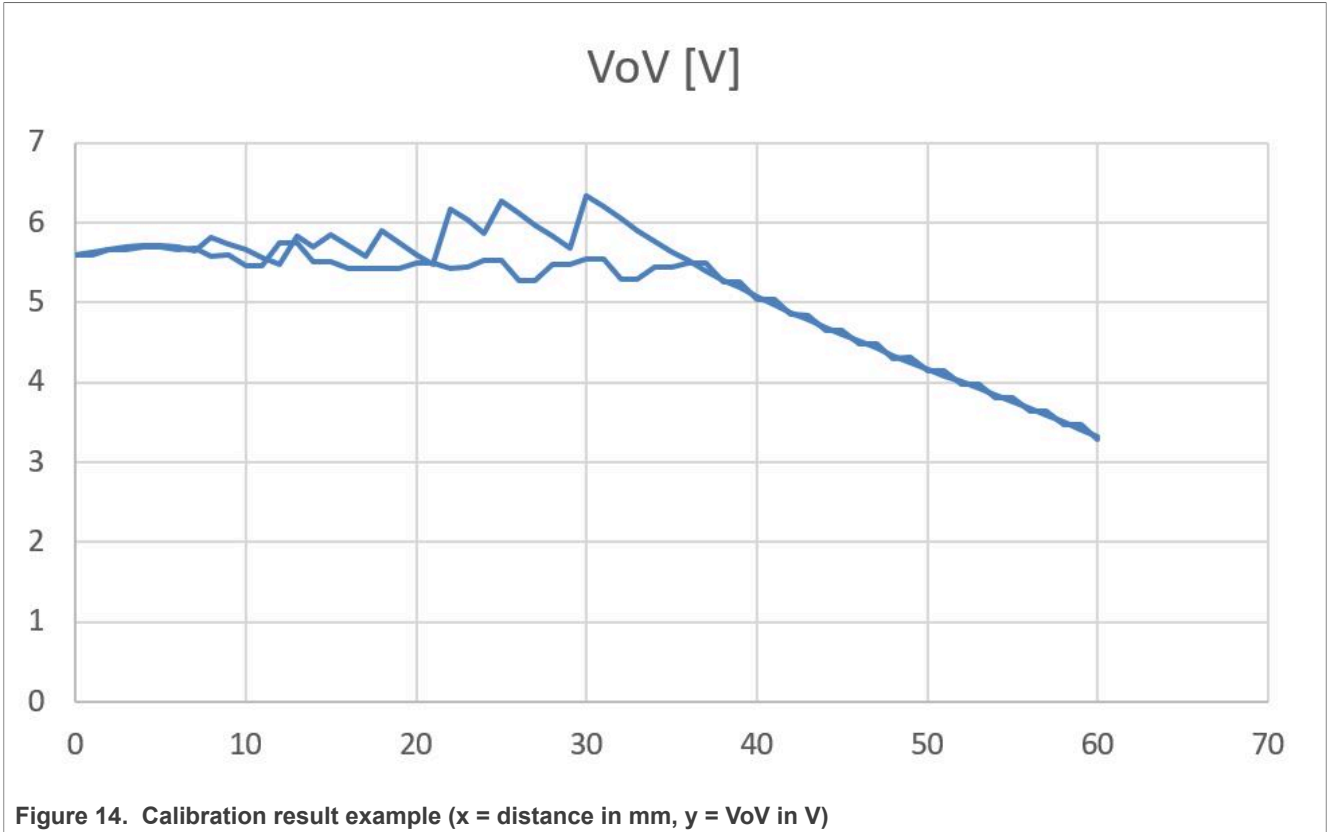

Figure 14. Calibration result example (x = distance in mm, y = VoV in V)
b. Check the result: Example is shown in Figure 14.
| Fig. 6. | measure_dpc_table --h | 7 | Fig. 14. | Calibration result example (x = distance in mm, y = VoV in V) | 13 |